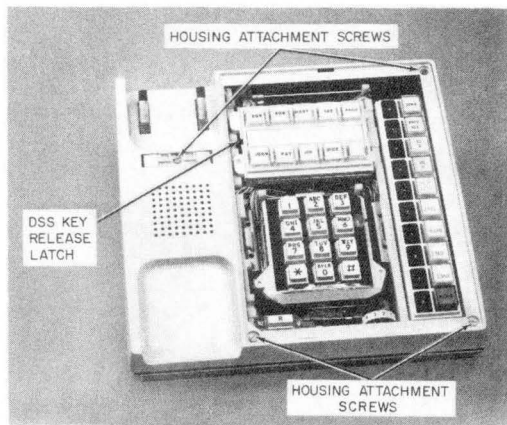

Fig. 55—Basic Satellite Set, Faceplate Removed
- Push the metal latch on the left side of the key (Fig. 55) to the right to release the key